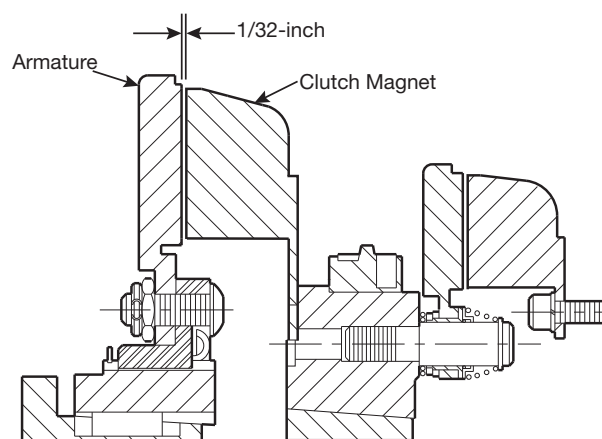

Figure 15
3. When the bushing is secure on the shaft, push the armature against the magnet face. When the armature is released, it will spring back about  $1/32$ ". The gap will be automatically maintained for the life of the unit. (Figure 15)